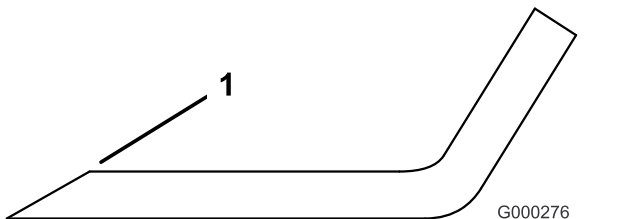

Figure 76
1. Use a file to sharpen the cutting edge at both ends of the blade (Figure 76).